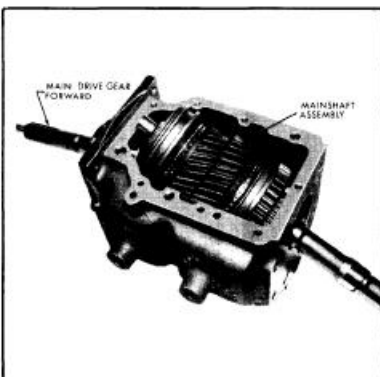

Figure 4-24—Positioning Mainshaft in Case
6. Position mainshaft assembly in case. See Figure 4-24.